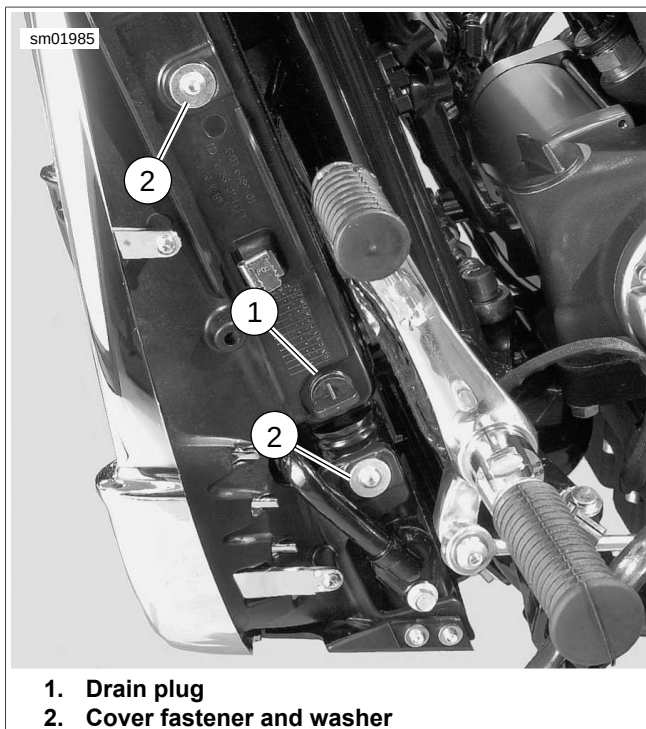

Figure 2-8. Radiator Cover Left Side (typical)
19. See Figure 2-8. Cover front fender with a shop towel or protective cover. On right side, pull rear brake fluid reservoir from radiator cover.
20. Remove two fasteners and washers (2) on each side of radiator cover and remove radiator cover.